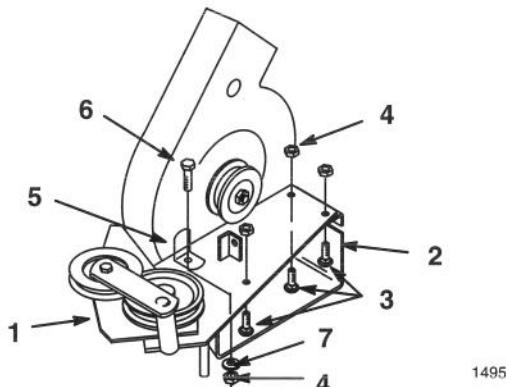
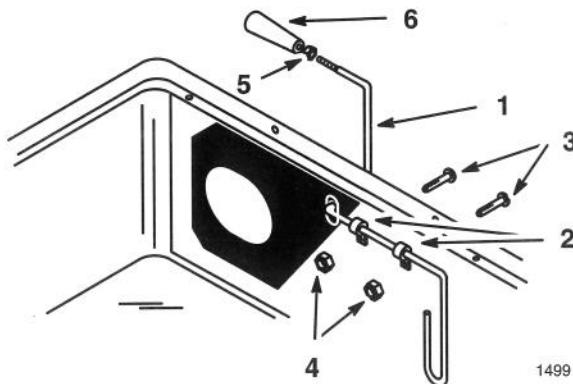

Figure 8
Figure 10
2. Assemble the blower mounting plate to the blower with (3) 5/16 x 3/4" (19 mm) carriage bolts and (3) 5/16" flange nuts (Fig. 8).
3. In the front inside hole of the blower insert a 5/16 x 1" (25 mm) bolt, item 6 (Fig. 8).
4. Inside the blower housing slide the L-bracket over the bolt. Hold the L-bracket tight against the blower housing wall and secure it with a 5/16" (8 mm) washer and 5/16" flange nut (Fig. 8).
1. Install the "full-bag" indicator rod through the hole in the rubber seal and the slot in the bagger cover (Fig. 8). Mount the full-bag indicator rod against the bagger cover using two clips, 1/4 x 3/4" (19 mm) screws, and 1/4" locknuts (Fig. 10).
2. Screw the jam nut completely onto the indicator rod (Fig. 8). Then screw the handle (Fig. 8) close to the jam nut so you can read the decal from the operator's position. Tighten the jam nut up against the handle to lock it in place.